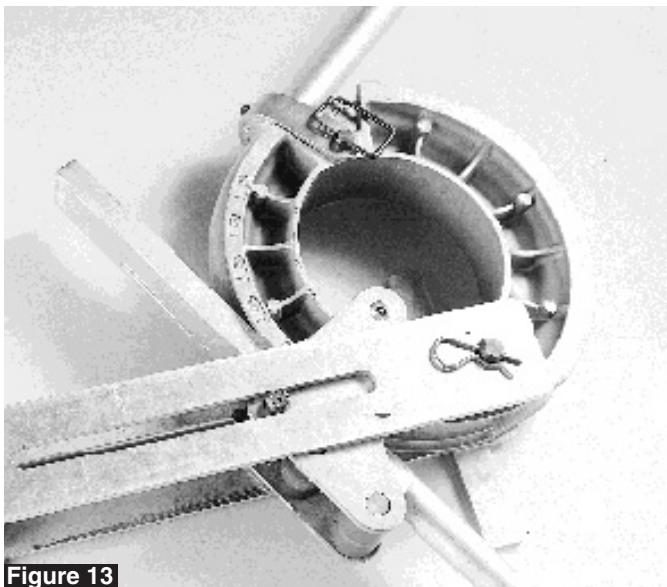

Figure 13
- Actuate the cylinder until the desired angle of bend is achieved, as indicated by the bend angle scale on the bending shoe as it emerges from under the edge of the upper roller plate. A maximum 90° bend is obtainable on all sizes and types of conduit in one set-up with the Mini-Eegor™ (see Figure 13).